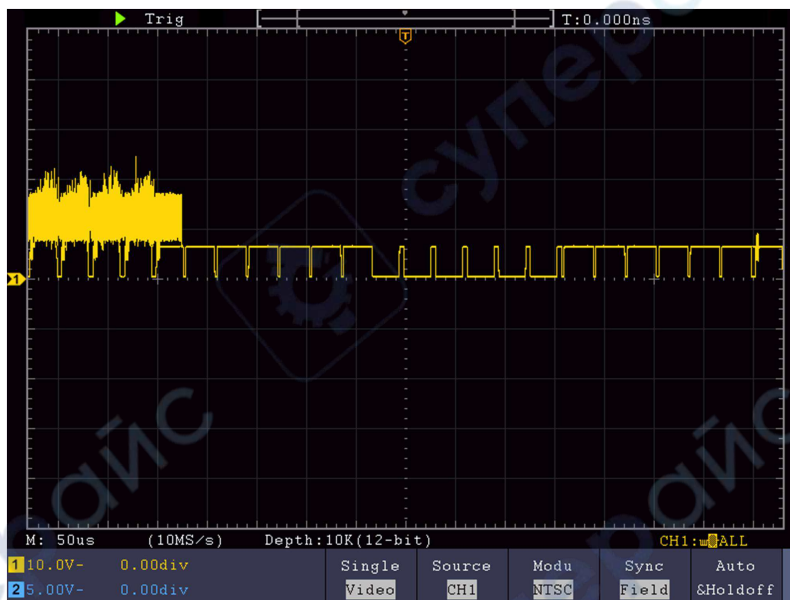

Figure 6-7 Waveform Captured from Video Field Trigger
- (5) Select **Modu** in the bottom menu. Select **NTSC** in the right menu.
- (6) Select **Sync** in the bottom menu. Select **Field** in the right menu.
- (7) Turn the **Vertical Scale**, **Vertical Position** and **Horizontal Scale** knobs to obtain a proper waveform display (see *Figure 6-7*).